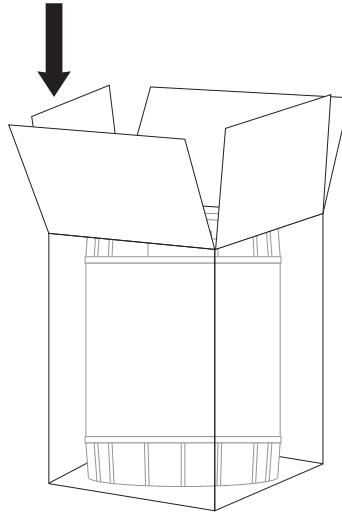

Figure 3
3. Set in plastic pail. (See Figure 3)